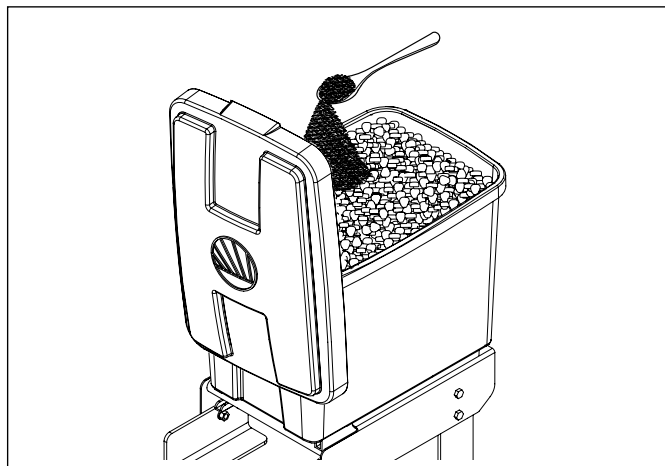

Figure 17
4. Park the lid on the front lip of the hopper, using the hook-plate feature inside the lid (see *Figure 17* on page 25).